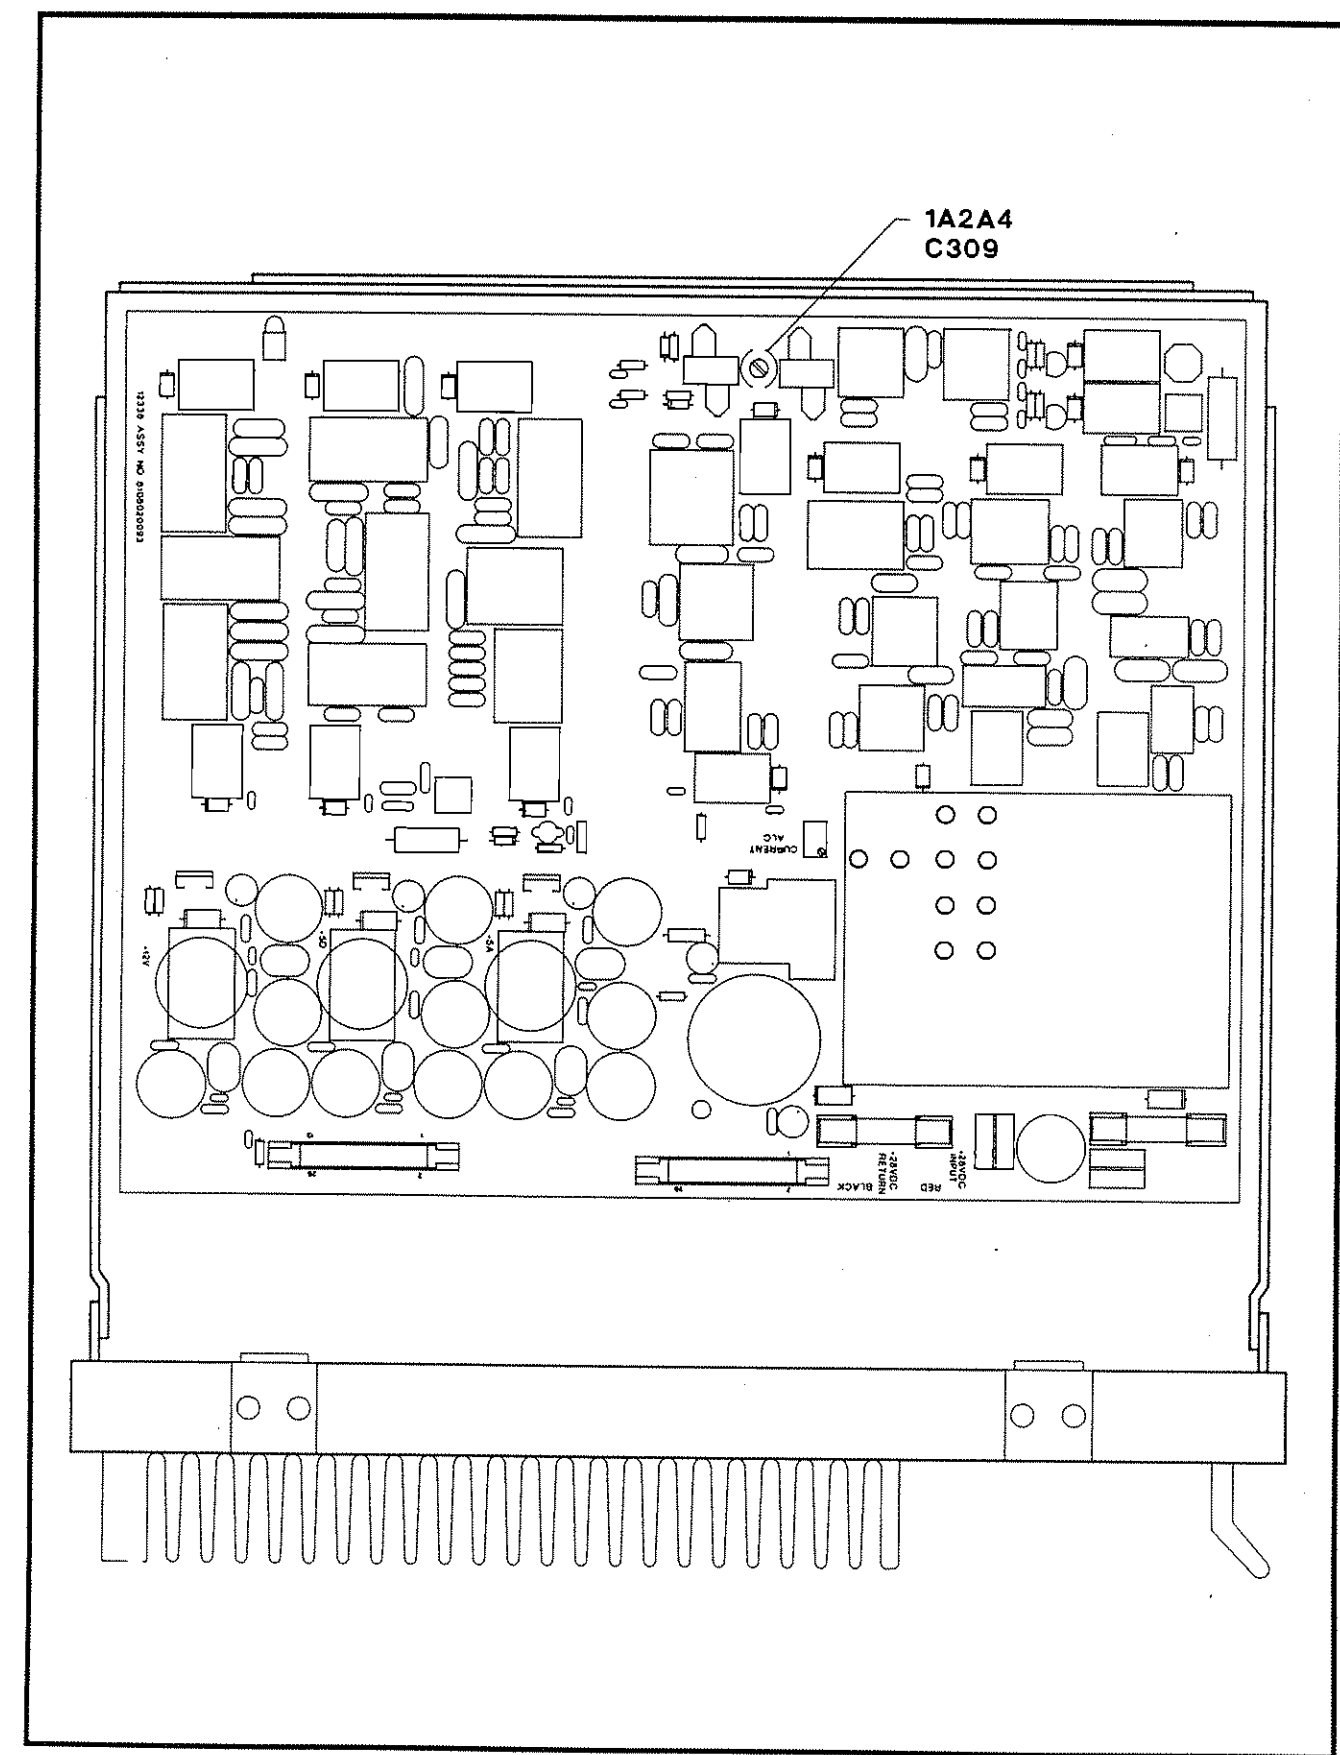

Figure 5.6.5 RT-2410 Alignment Adjustment Locations (BOTTOM).
- d) Change the radio frequency to 29999.00 kHz and depress the CW key. Adjust 1A2A4 C309 on the Power Supply/RF Filter assembly for output power of 125 Watts/79 VRMS or 223 V peak to peak (see Table 5.6.1 and Figure 5.6.5). Release CW key.
- d) Change the radio frequency to 29999.00 kHz and depress the CW key. Adjust 1A2A4 C309 on the Power Supply/RF Filter assembly for output power of 100 Watts/71 VRMS or 201 V peak to peak (see Table 5.6.1 and Figure 5.6.5). Release CW key.